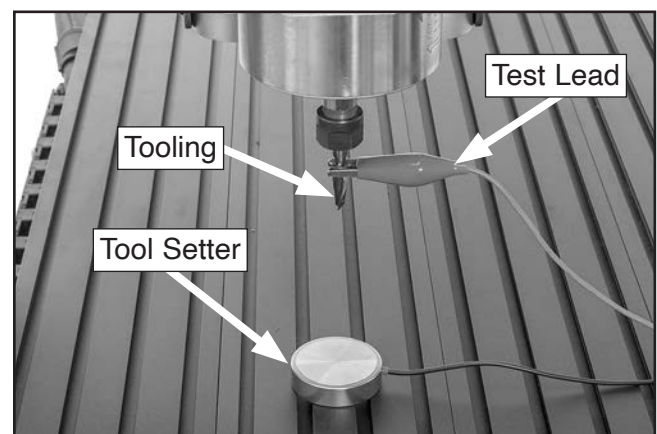

Figure 51. Example of tool setter connected to spindle tooling.
4. Connect tool setter test lead to exposed portion of tooling (see **Figure 51**).